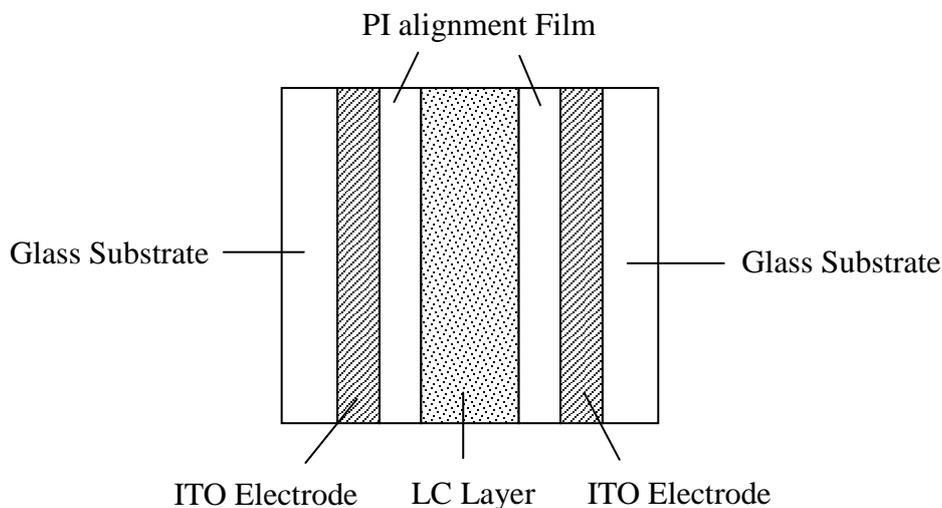

Fig. 7 LC cell structure
Liquid crystal (LC) is a state of matter that is intermediate between the crystalline solid and the amorphous liquid. The nematic LCs are organic compounds consist of long-shaped needle-like molecules. The orientation of the molecules can be easily aligned and controlled by applying an electrical field. Uniform or well prescribed orientation of the LC molecules is required in most LC devices. The structure of the LC cell used in this experiment is shown in Fig 7. Rubbing the polyimide film can produce a well-aligned preferred orientation for LC molecules on substrate surfaces, thus due to the molecular interaction the whole slab of LC can achieve uniform molecular orientation. The local molecular orientation is called the director of LC at that point.